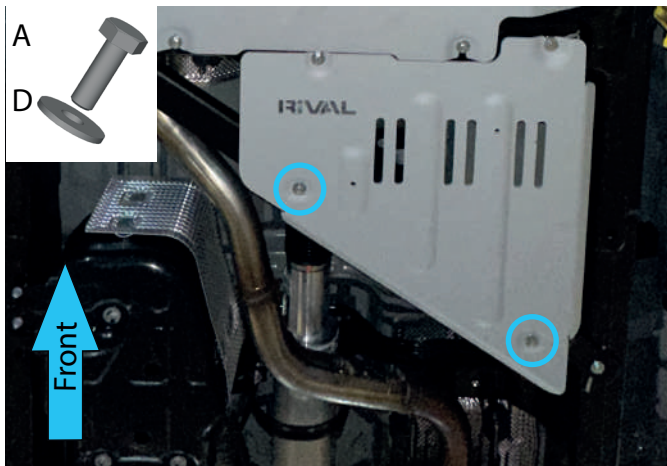

Fig. 6
6. Secure the skid plate to the mounting bracket (item 2) using M8x25 bolts (item A) and M8 washers (item D) as shown in Fig.6.